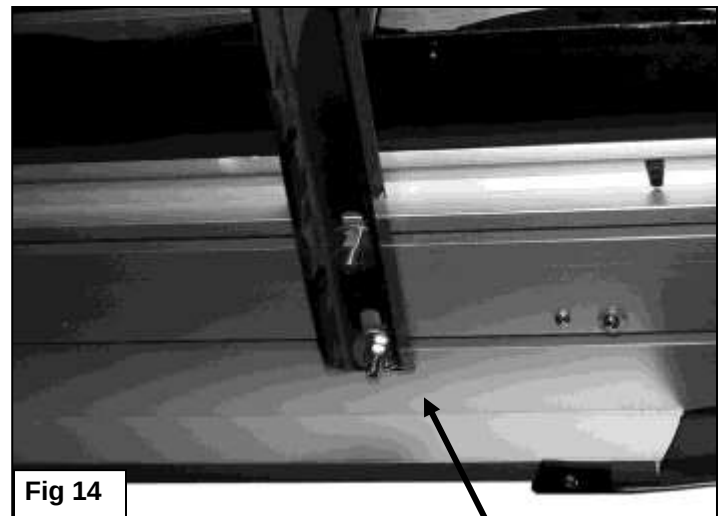

Fig 14
11. Carefully un-wrap the Running Boards. Insert (2) 6mm T-Bolts into the open ends of each channel, (2 T-Bolts per channel), in the bottom of the Running Board, (**Figure 13**). Hold the Running Board up in the approximate position and slide the T-Bolts down the channels to line up with the (2) Brackets. Tilt the Running Board up at a slight angle to clear the slots in the Brackets. Secure the Running Board to the Brackets with (4) 6mm Flat Washers, (4) 6mm Lock Washers and (4) 6mm Hex Nuts, (**Figure 14**). **NOTE:** The Running Board is designed to fit close to the vehicle. It may be necessary to loosen the Mounting Brackets and tilt the Brackets downward to insert the Running Board between the Brackets and the vehicle. Do not fully tighten hardware at this time.